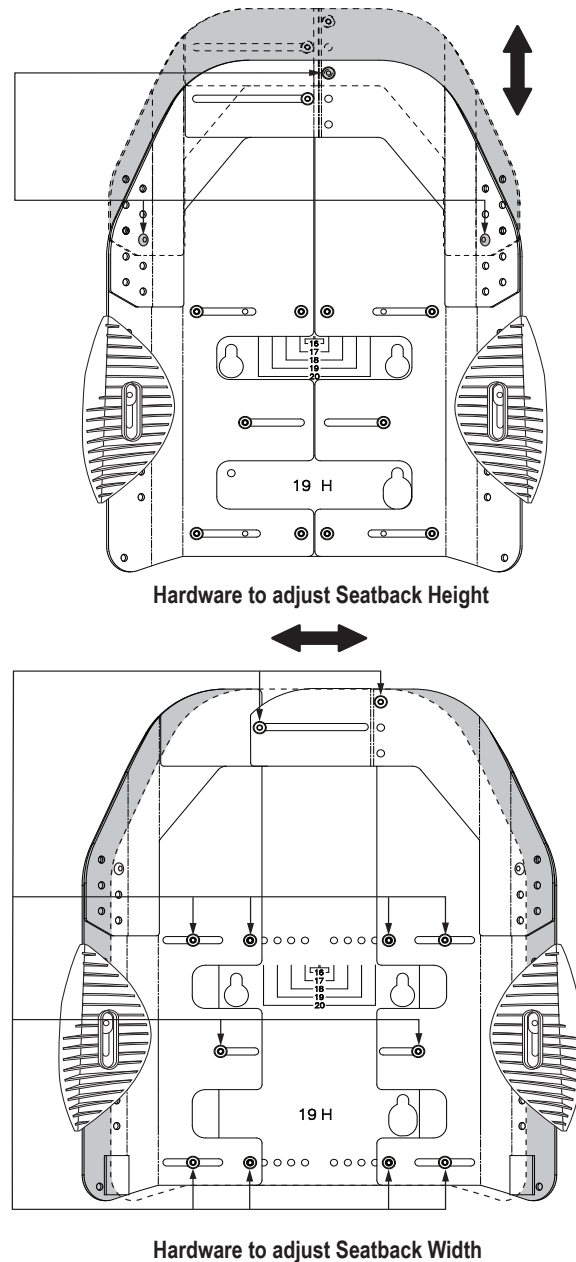

Figure 12. Height and Width Adjustments for Seatback
1. Loosen the hardware. **See figure 12.**